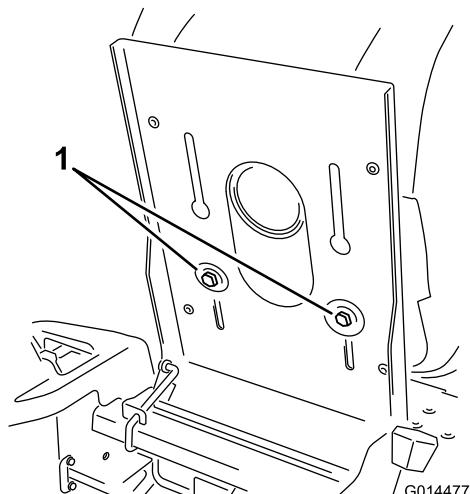

Figure 25
1. Raise the seat and loosen the adjustment bolts just enough that seat can move (Figure 25).